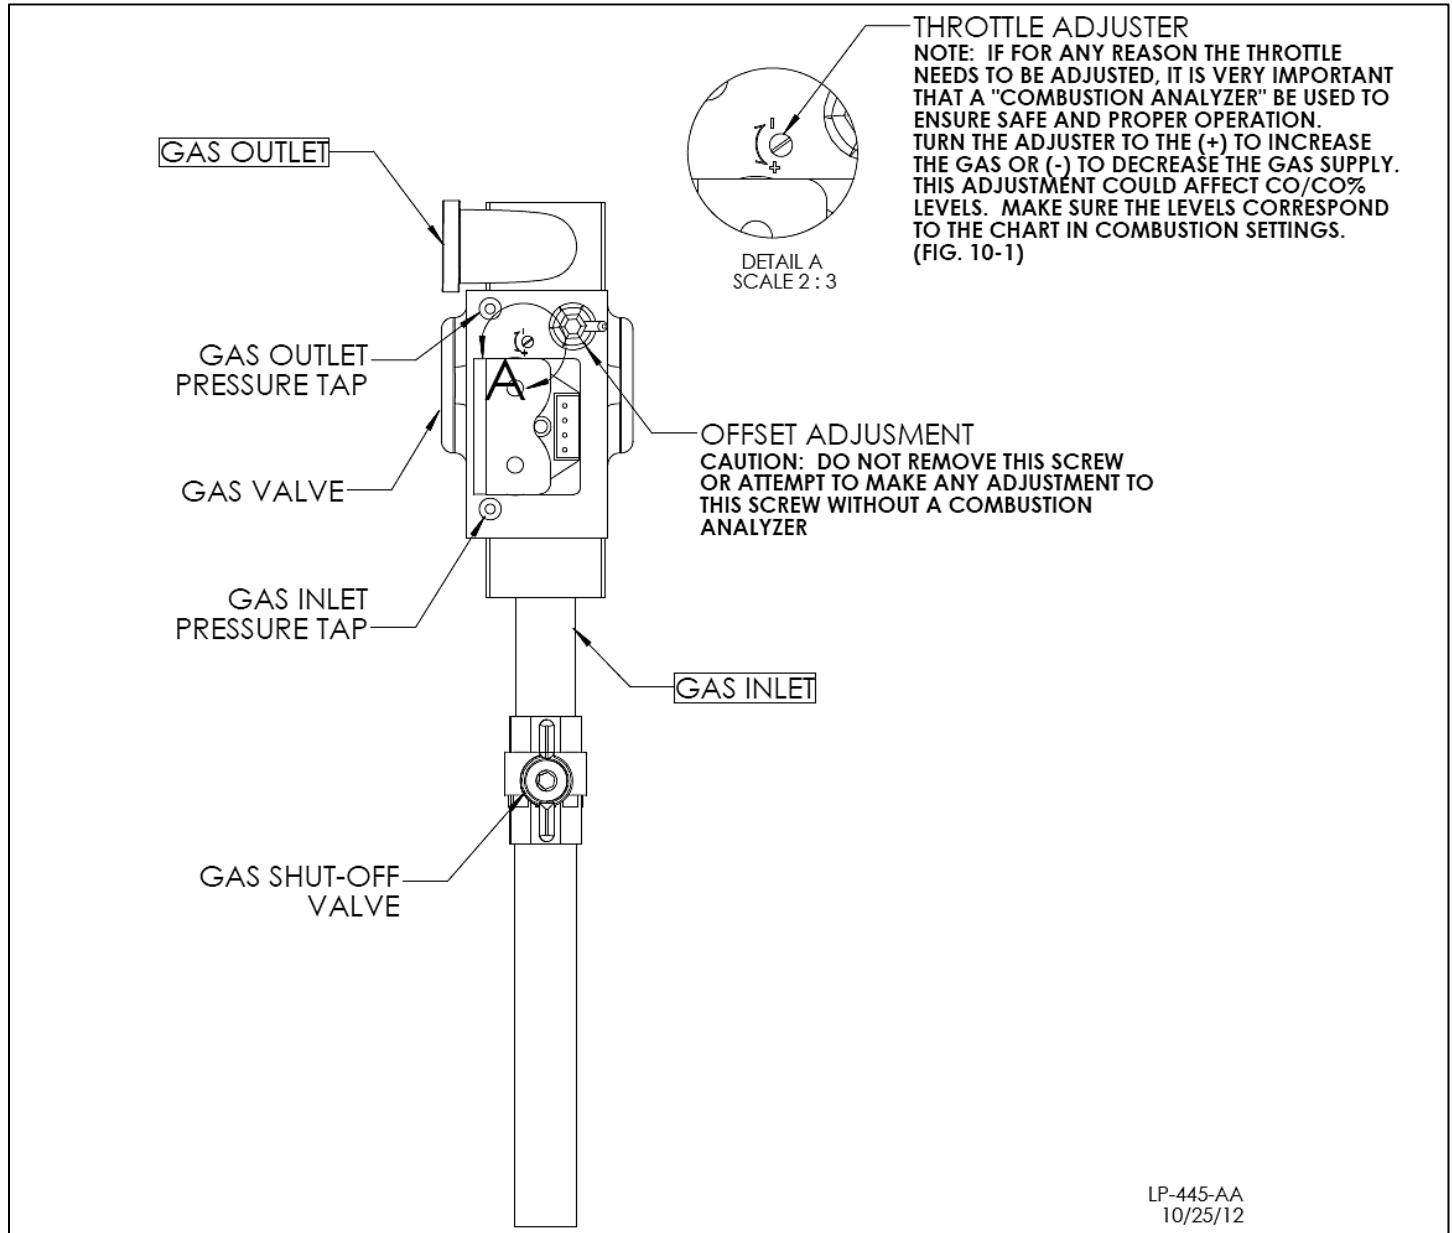

Figure 25 – Mod Con 500 Gas Valve
- Loosen the pressure tap with a small screwdriver. Refer to Figs. 25 and 26 for locations.